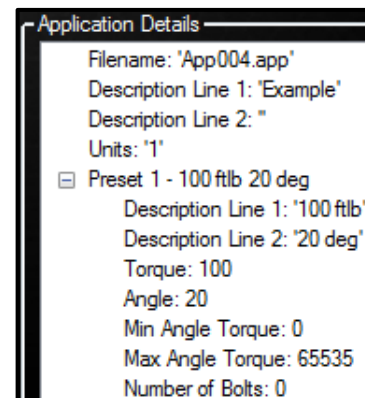

Figure 8.7-14: Edit Preset
1. Select the Application and edit the Presets (Figure 8.7-14).